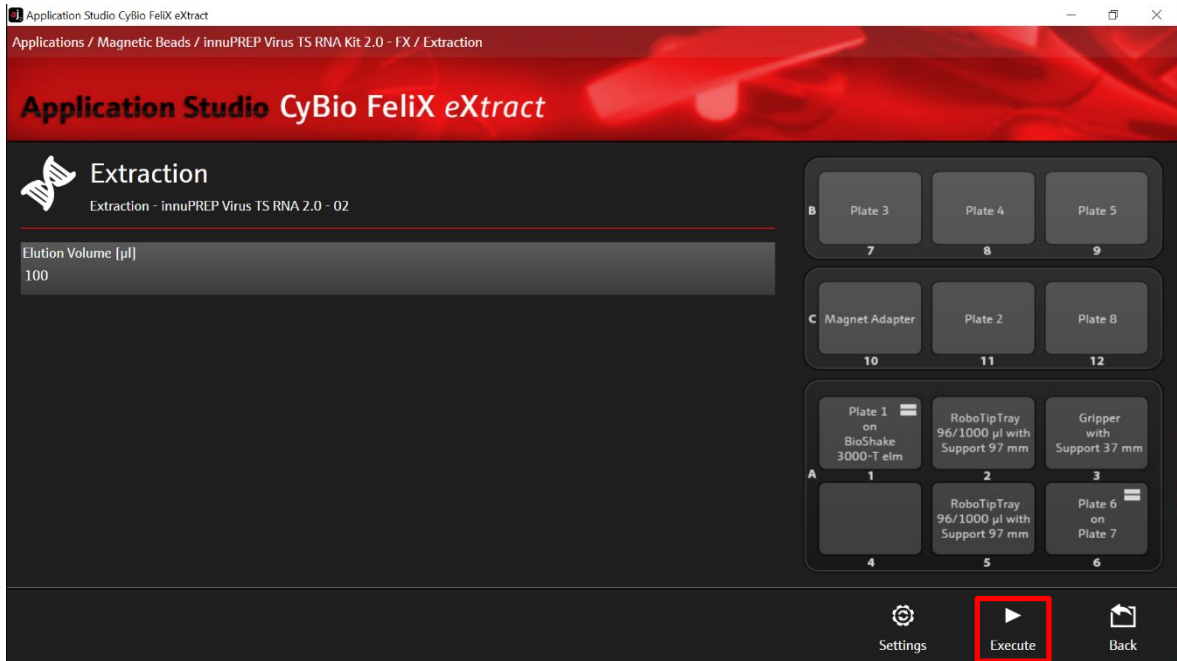

Figure 16: Adjustment of the elution volume.
- After selecting "Execute" the screen with the deck layout appears. Check the correct positioning of the plates and accessories referring to the deck layout above (\rightarrow see Figure 10) and confirm with "Ok" to start the protocol (\rightarrow see Figure 16).